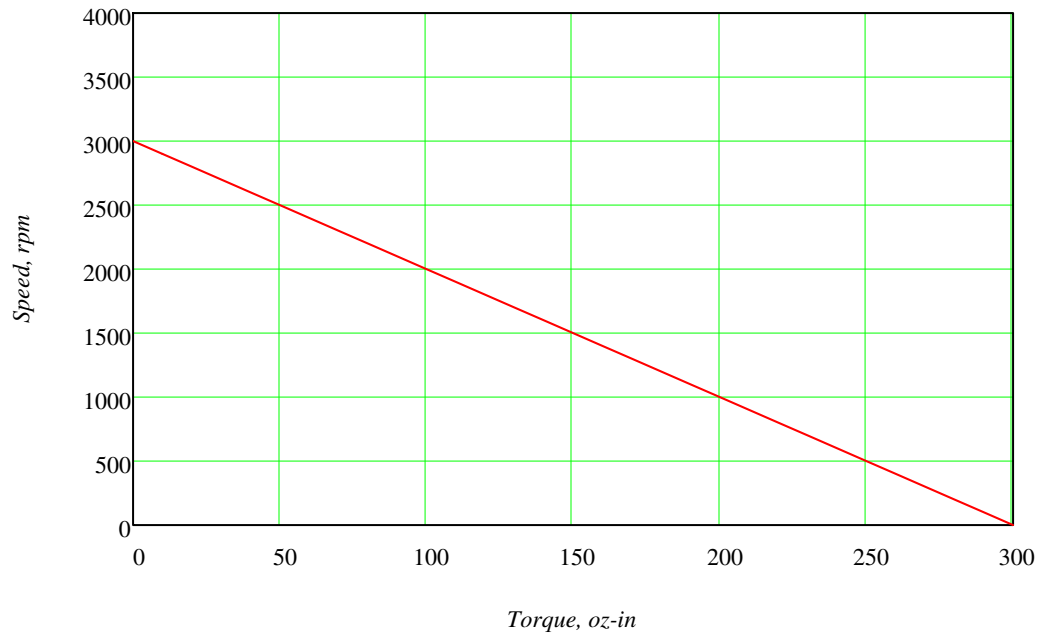

Figure P2-3 Torque-speed Characteristic of a 1/8 HP, 2500 rpm PM DC Motor
- Statement:** The torque-speed curve for a 1/8 hp permanent magnet (PM) DC motor is shown in Figure P2-3. The rated speed for this fractional horsepower motor is 2500 rpm at a rated voltage of 130V. Determine:
Solution: See Figure P2-3 and Mathcad file P0220.